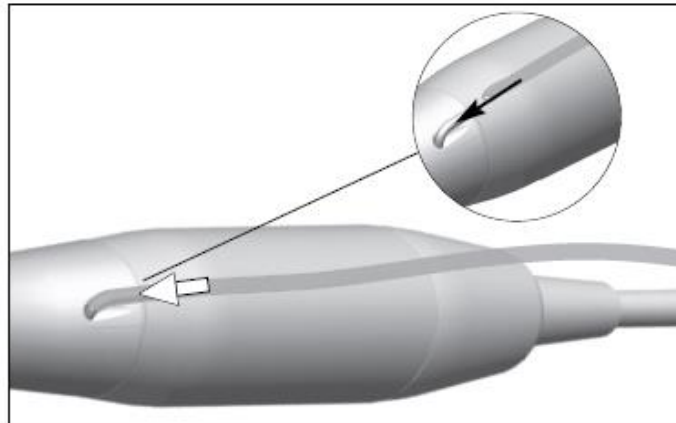

fig. 7
- J. Connect the flexible hose of the irrigation line to the spray tube of the handpiece or contra-angle **fig.7**.